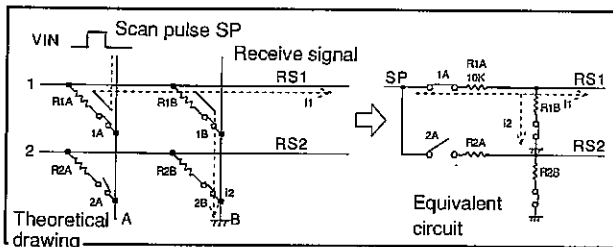

Fig.3 Theoretical drawing
- This way, line is isolated in terms of circuits (see Fig.3 Equivalent circuit).